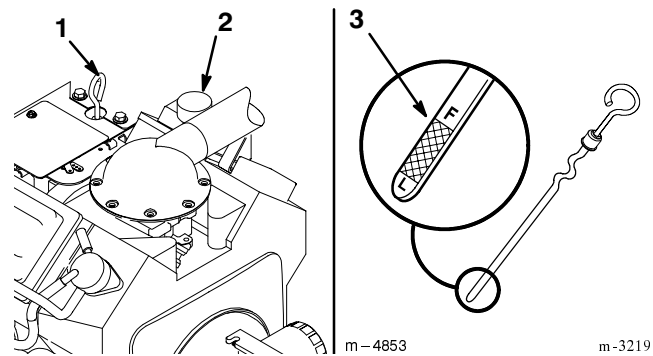

Figure 58
2. Clean around the oil dipstick (Fig. 58) so dirt cannot fall into the filler hole and damage the engine.
3. Pull the oil dipstick and wipe the metal end clean (Fig. 58).
4. Slide the oil dipstick fully into the filler tube (Fig. 58). Pull the dipstick out and look at the metal end. If oil level is low, slowly pour only enough oil into the filler tube to raise the level to the "FULL" mark.
5. Slowly pour approximately 80% of the specified oil, on page 34, into the fill opening (Fig. 58). Now check the oil level; refer to Checking Oil Level, page 34. Slowly add additional oil to bring to "FULL" mark on dipstick.